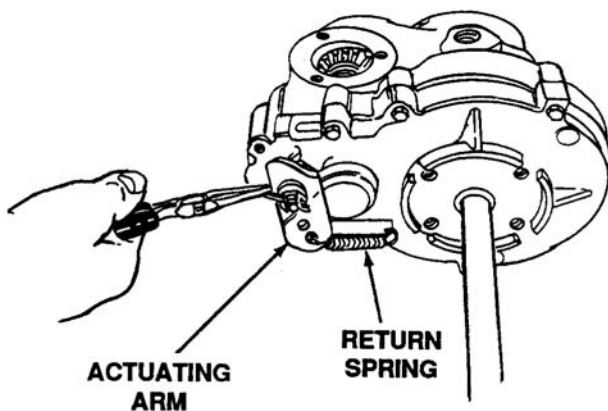

Figure 5-7. Castle Nut Adjustment
7. During reassembly remove the cotter pin from castle nut and adjust the castle nut in or out to obtain the 1/4 to 3/8 inch clearance needed. See Figure 5-7.